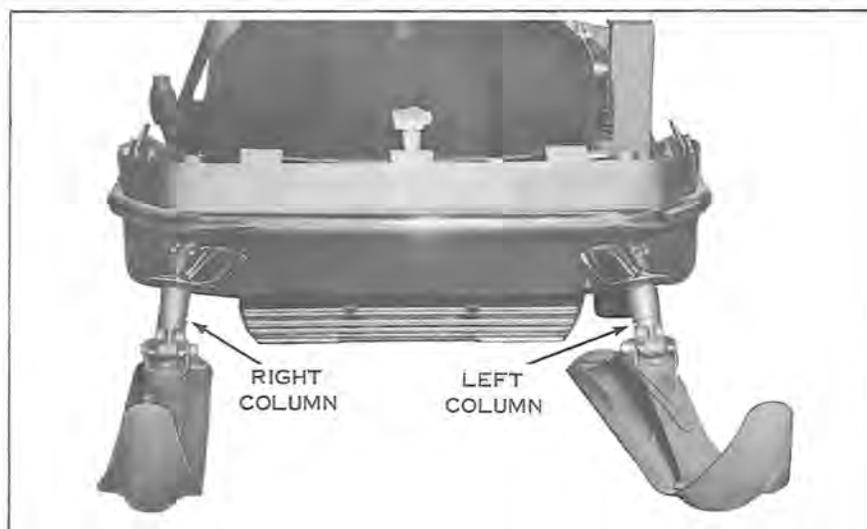

Figure 9-33
- Place ski and column assemblies in position in frame assembly. Check lubrication of ski columns. **NOTE:** DO NOT interchange right and left ski columns (see Figure 9-33).